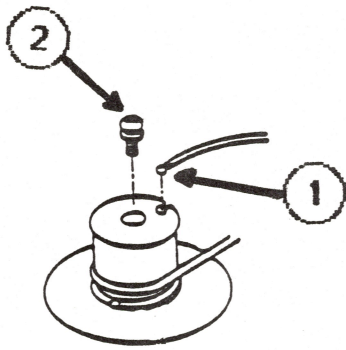

FIGURE 11
11. Insert this end of the wire into the top slot of the motor pulley (see Figure 11, #1).
13. Replace the motor pulley screw (see Figure 11, #2).